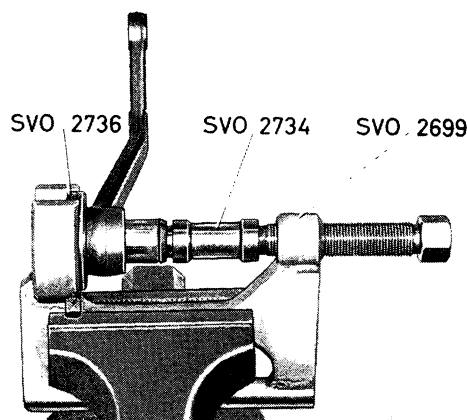

Fig. 6-49. Removing the rubber bush, relay arm
4. Place press SVO 2699 in a vise and press out the bush with tool SVO 2736 and drift SVO 2734 (Fig. 6-49).